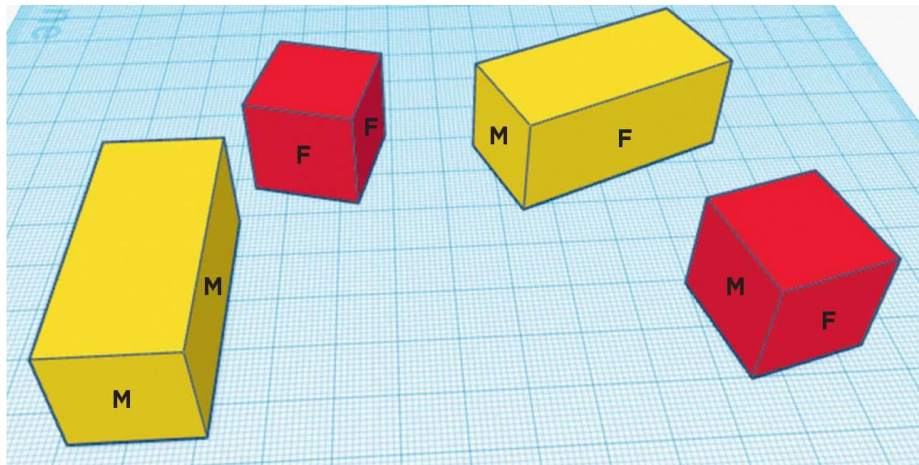

FIG. 3: Identify which surfaces will be adjoining in the puzzle. The M and F surfaces adjacent in the figure will mate one another.
3. Identify the mating surfaces. This is key so we can ensure each joint has matching tail and socket pieces (fig. 3).